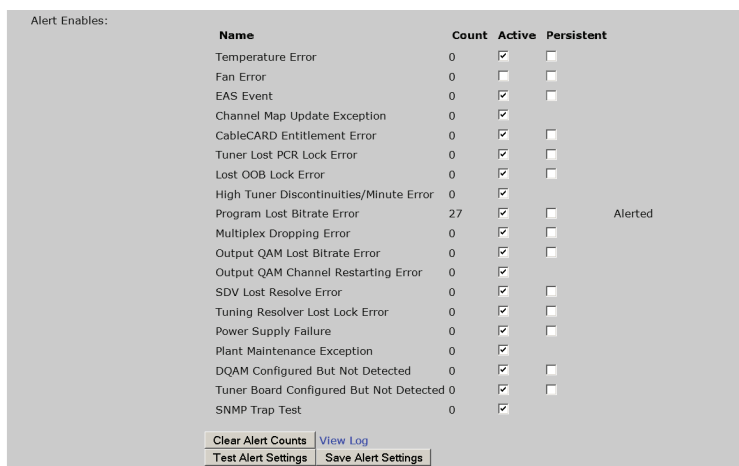

Figure 11-25: Alert Enables Section
All Devices can provide email alerts from a number of detected error events. The email configuration is done in the **Email Alerts** section, Figure 11-22. Each alert may be enabled individually by clicking the associated **Alert Enables** check box, Figure 11-25. After configuration changes, click the **Save Alert Settings** button, see Figure 11-25.
This is the section where optional alerts may be enabled for sending, Figure 11-25. Configuration is explained in Table 11.14c and the actual alerts is explained in Table 11.14d. While Figure 11-25 and Table 11.14d list all possible alerts for all UCrypt models, some models will have only a subset of this list of alerts.
Table 11.14c: Alert Enables (See Figure 11-25)
**Table 11.14d: System Alerts (See Figure 11-25)**